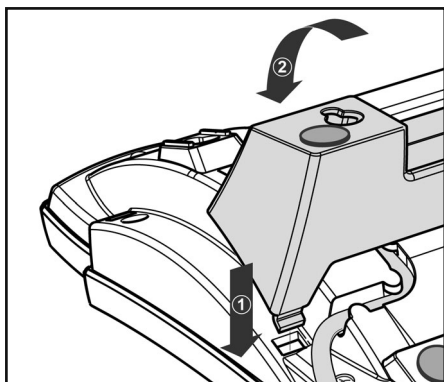

Fig. 5
- 5** Insert the outside, rear snap-fits into the mounting holes on the bottom shell (Fig. 5, arrow no. 1). Tilt the footstand forward and downward until the snap-fits snap into place in the mounting holes. **Please, make sure that the four snap-fits have securely snapped into the holes before mounting the phone on the wall.**